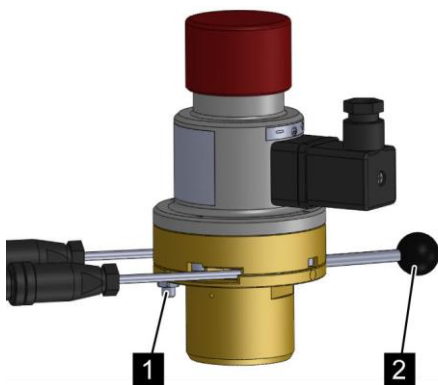

Fig. 19: Isolating the release device
2. ➤ Undo the hexagon nut (Fig. 19/1) on the electric release device using a wrench.
3. ➤ Turn the manual lever (Fig. 19/2) on the electric release device to the "blocked" position.